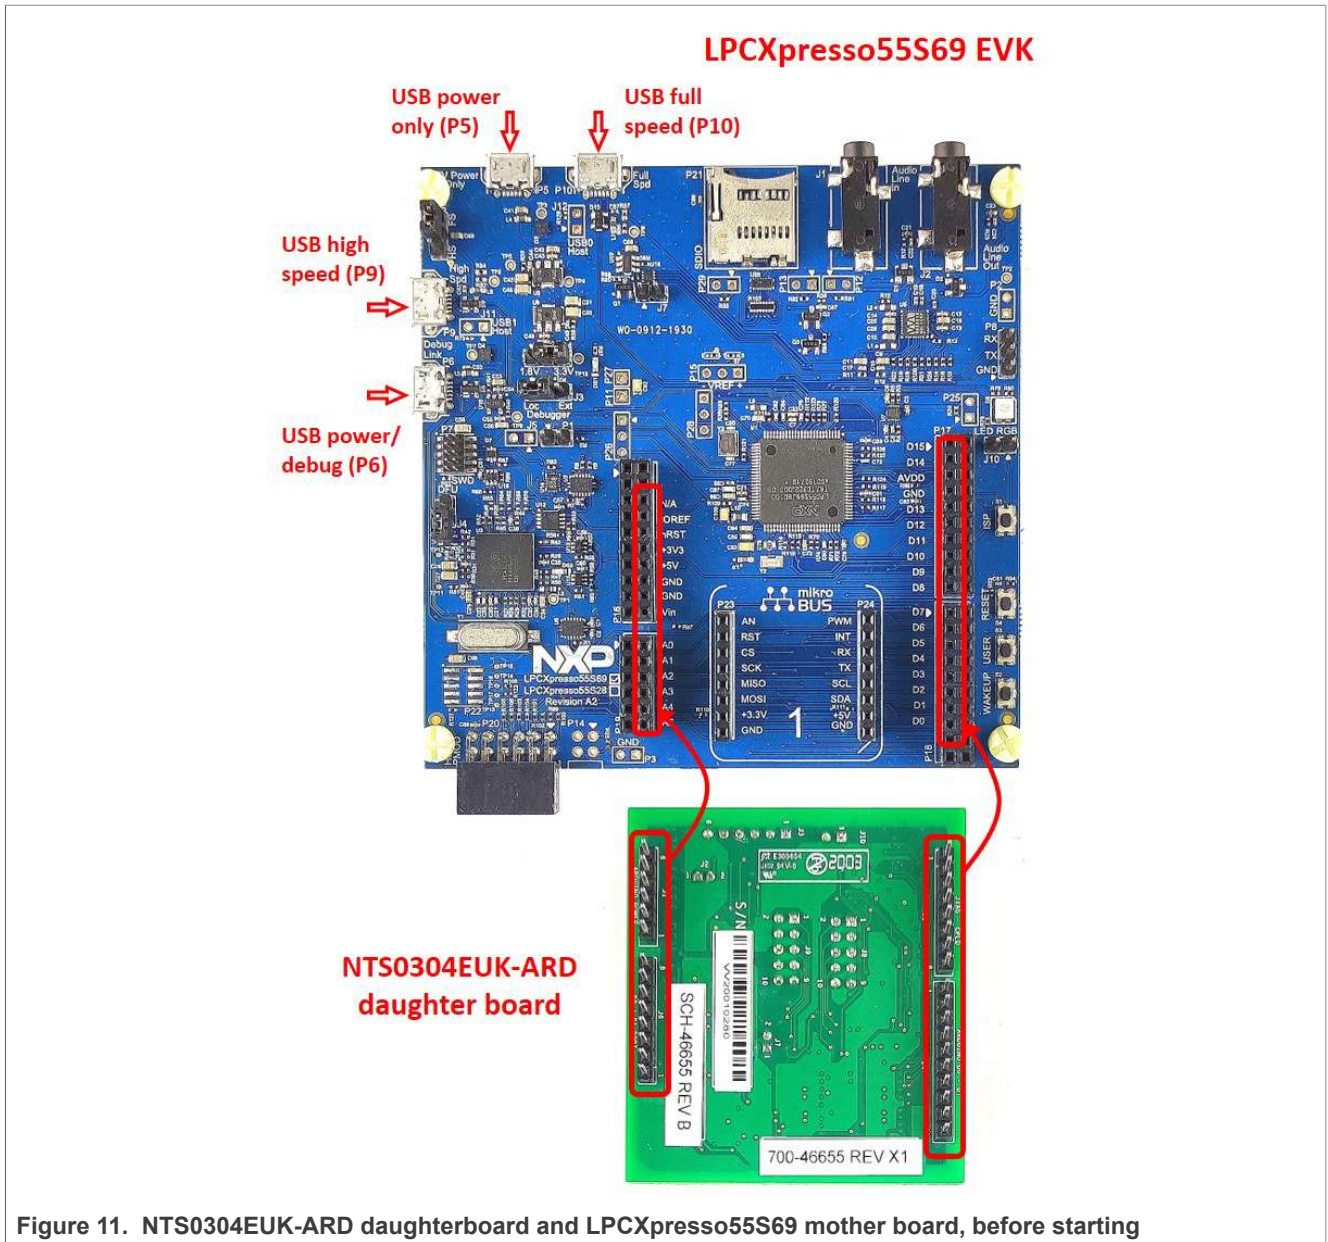

Figure 11. NTS0304EUK-ARD daughterboard and LPCXpresso55S69 mother board, before starting
Figure 11 shows the required hardware for operation of the NTS0304EUK-ARD and LPCXpresso55S69 EVK board. This configuration consists of:
The following steps describe how to assemble, program, and operate the configuration shown in Figure 11.
1. Insert the NTS0304EUK-ARD daughterboard to P16 – P19 connectors located on LPCXpresso55S69 development board (see the marked pins of P16 – P19, Figure 11)